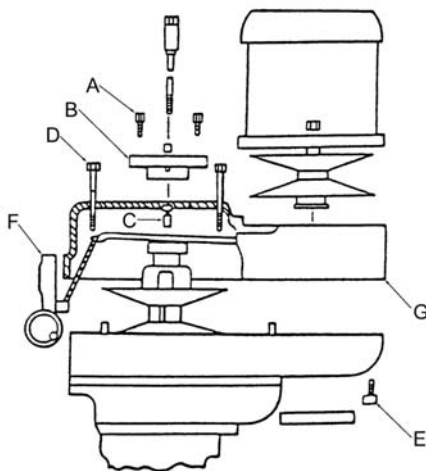

Figure 21: Drive belt replacement
4. Remove two lower screws from variable speed housing (A, Figure 21).
5. Remove six screws (B).
6. Remove top assembly (C) and tap to clear dowels.
Refer to Figure 21.
3. Remove three screws (A, Figure 21). Thread the screws into the adjacent tapped holes and back off the cover (B).